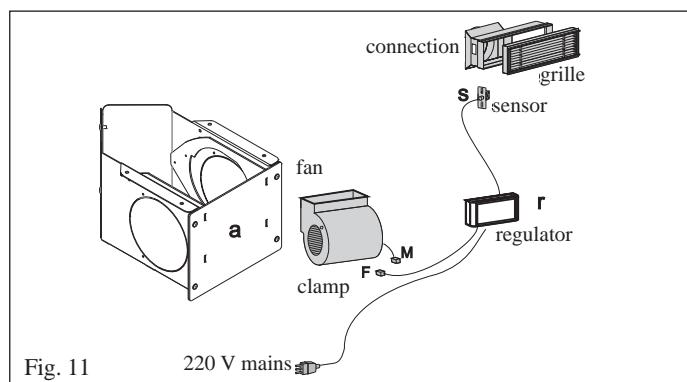
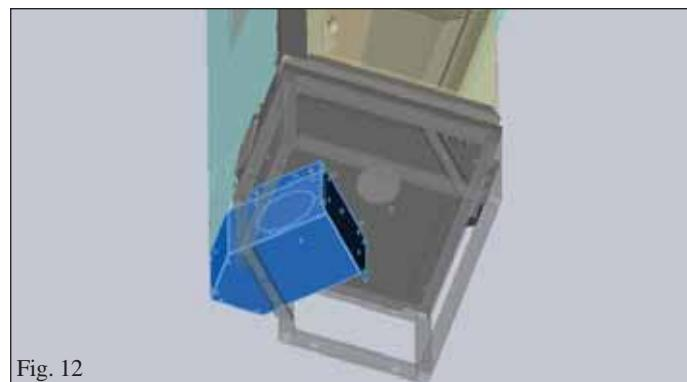

Fig. 11
Fig. 12
- Take off the front part by removing the 4 screws (a - fig. 11/12).
- Connect the two connectors M and F (fig. 11).
- Remove one of the two pre-cut plugs located on the metal box (fig. 11/12) to create a passage for the lead from the fan to the regulator.
- Extend the electric wire from the regulator (r - fig. 11) to an electric socket.
- The wire with the sensor (s - fig. 11) must be extended to one of the hot air exit vents (b - fig. 12) normally positioned on the mantel.